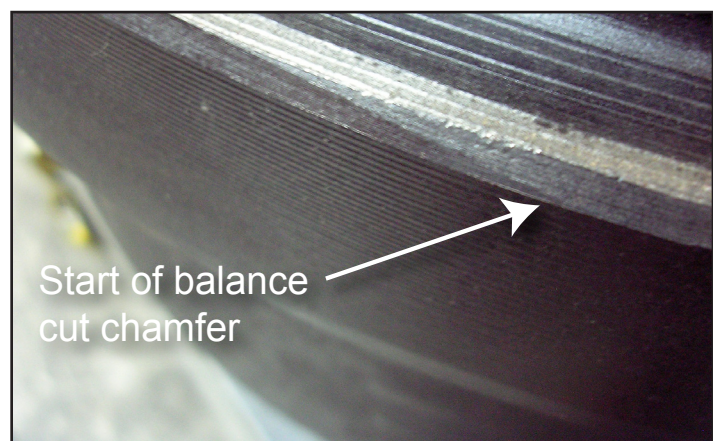

Figure 3. - Transition in chamfer
2. Transition between squealer band chamfer and balance cut chamfer. (Figure 3)